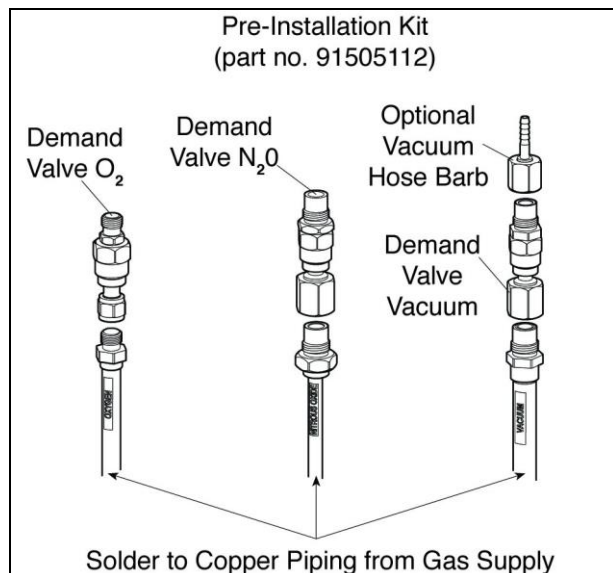

Figure 2. Installation of Demand Valves.
4. Solder a Matrx shutoff valve to each gas line that will connect to the mixer head and the scavenging control valve; see Figures 2 and 9. For soldering requirements, see the NFPA 99C guidelines in the Introduction.